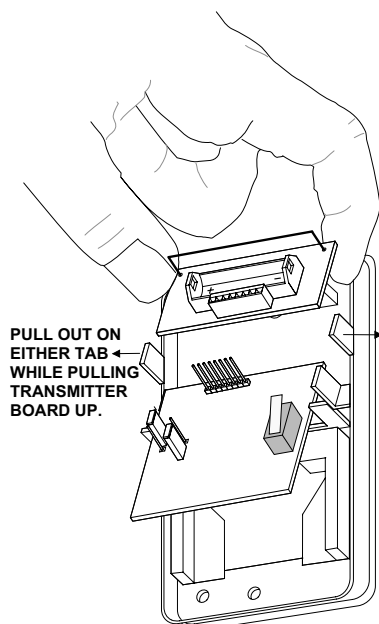

Figure 11. Removing the Transmitter Circuit Board
3. Remove the transmitter circuit board and place it inside the cover (see Figure 11).